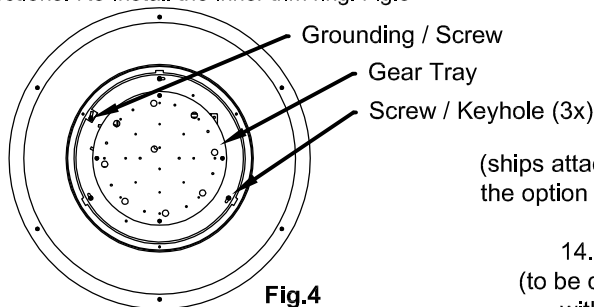
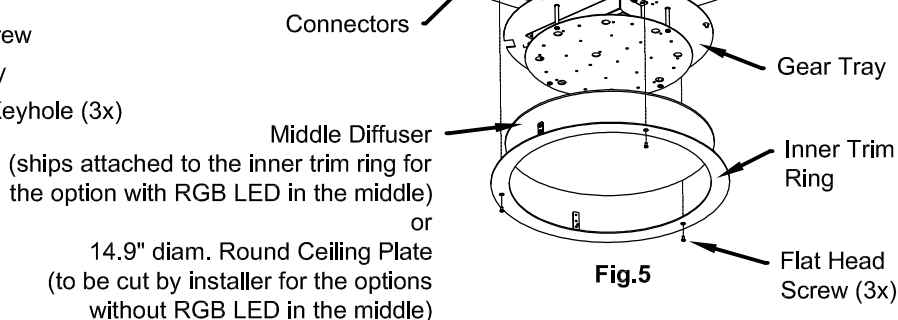

Fig.4
Fig.5
7. Remove the gear tray by loosening three screws and twisting it clockwise. Disconnect connectors and grounding. Fig.4 and Fig.5
10. Lift the fixture using cable gliders through the middle opening in the fixture. To release the grip lock, press down on the top of the mechanism. If desired, clip the excess aircraft cables after the fixture is level. Fig.5
11. Re-install the gear tray, grounding and connections. Re-install the inner trim ring. Fig.5